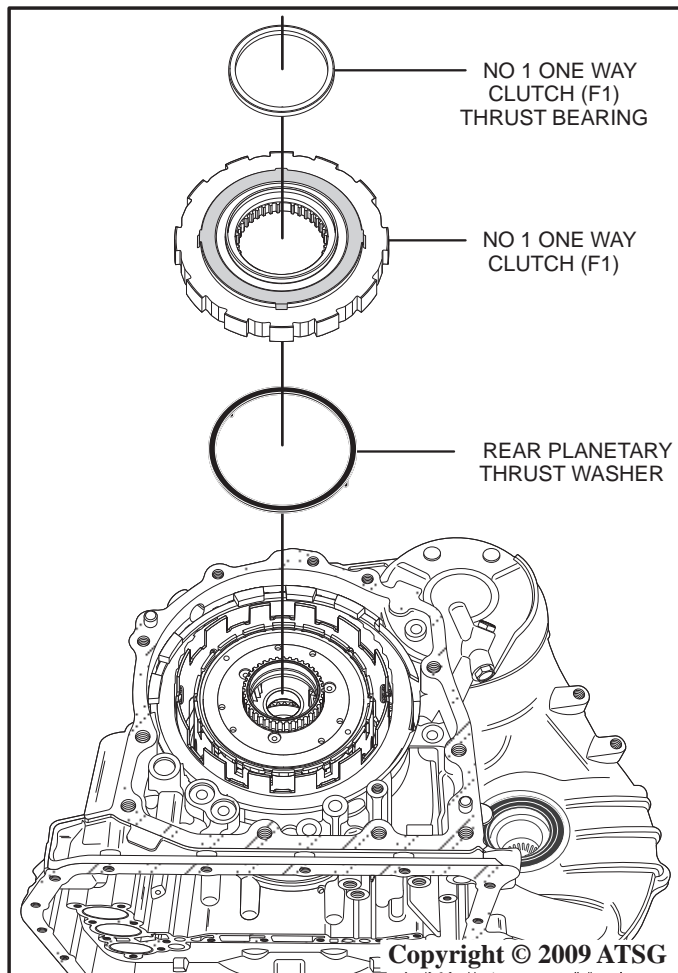

Figure 47
75. Remove the No. 1 one way clutch (F1) thrust bearing as shown in Figure 47.
76. Remove the No. 1 one way clutch (F1) by lifting straight up as shown in Figure 47.
77. Remove the rear planetary thrust washer as shown in Figure 47.